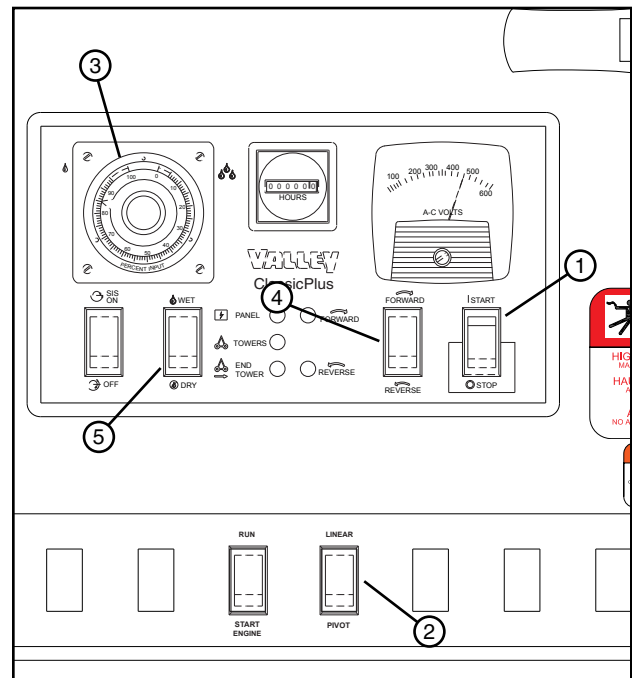

Figure 75-1 1. Start/Stop Switch 4. Forward/Reverse Switch
1. At the control panel, switch the START/STOP rocker switch to the STOP position. See figure 75-1.
2. Switch the WATER ON/OFF rocker switch to the OFF position. See figure 75-1.
3. Switch the PIVOT/LINEAR rocker switch to the pivot mode. See figure 75-1.
4. Set the FORWARD/REVERSE switch for the desired direction of travel that the machine will move in when started. See figure 75-1.
5. Set the percent timer to the desired percentage. See figure 75-1.
6. Switch the START/STOP rocker switch to the START position, to start the machine in the pivot mode. See figure 75-1.
7. When the machine reaches the end of pivot zone, switch the START/STOP rocker switch to the STOP position. See figure 75-1.
8. Switch the PIVOT/LINEAR rocker switch to the linear mode. See figure 75-1.